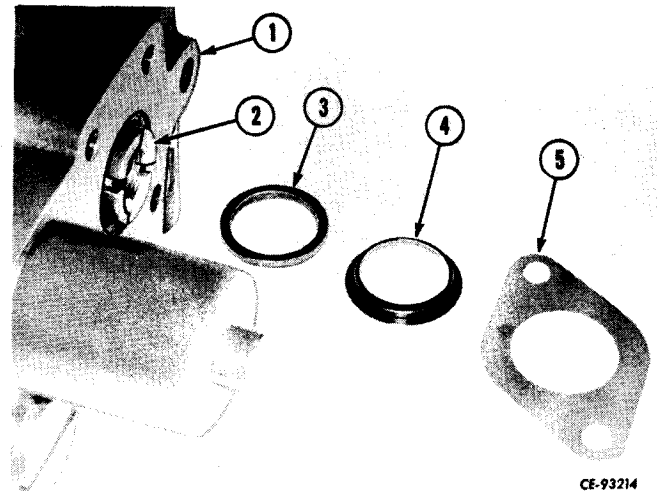

Figure 11-72
Remove the screws securing the seal plate (5, Fig. 11-72). Remove the wiper (4). Slide the control plunger (2) into the valve (1). Remove and discard the seal (3).